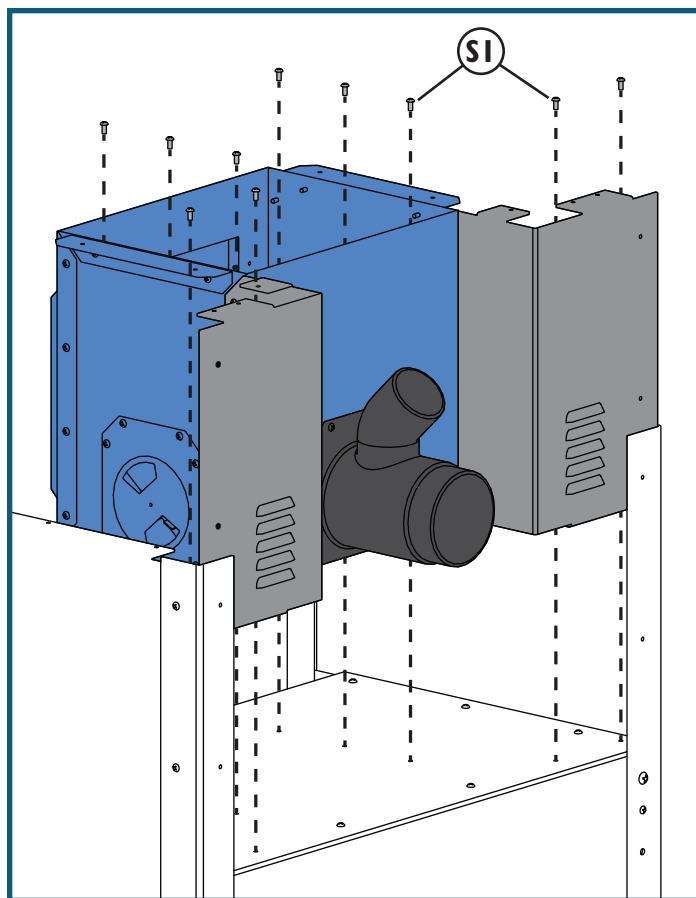

Fig. 16
- Lower the Dust Bucket assembly into the Cabinet, aligning the mounting holes in the Dust Bucket Bottom Brackets (18) and Left and Right Rear Louver Panels (27 and 28) with the mounting holes in the Middle Shelf (15). Secure with three M4 x 3/8" Pan-Head Self-Tapping Screws (S1) through each Bottom Bracket and two M4 x 3/8" Pan-Head Self-Tapping Screws through the bottom flanges of the two Louver Panels and into the Middle Shelf. **Fig. 16.**